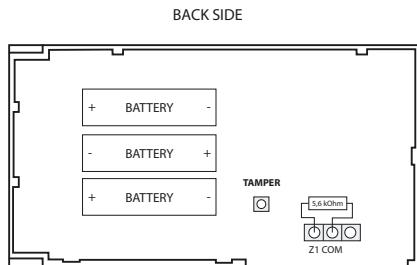

Fig. No. 2
- Z1** and **COM** contacts must be connected with resistor of 5,6kΩ nominal (see Fig. No. 2). As keyboard zone Z1 is disabled by default, it can be enabled by SMS, EKB3W keyboard and *ELDES Configuration Tool* software. Keyboard zone **Z1** must be enabled and resistor connected even if the tamper button alone is required.
ATTENTION! Before fixing the keyboard into the holder, please, make sure that the tamper is properly pressed (see Fig. No. 2).